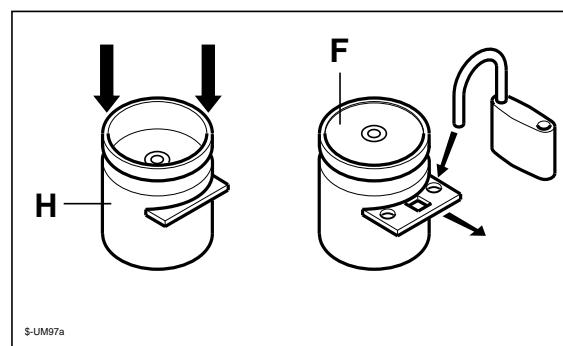

Fig. 5.2
- on Metalwork filter units, press down the knob H (fig.5.2) and padlock it.